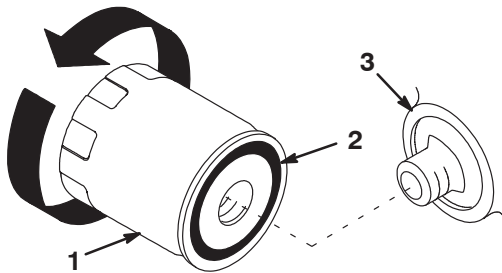

Figure 17
8. Change the oil filter, if necessary (Fig. 17).
2. Remove the old filter and wipe the filter adapter (Fig. 17) gasket surface.
3. Apply a thin coat of new oil to the rubber gasket on the replacement filter (Fig. 17).
4. Install the replacement oil filter to the filter adapter. Turn the oil filter clockwise until the rubber gasket contacts the filter adapter; then tighten the filter an additional 1/2 to 3/4 turn (Fig. 17).